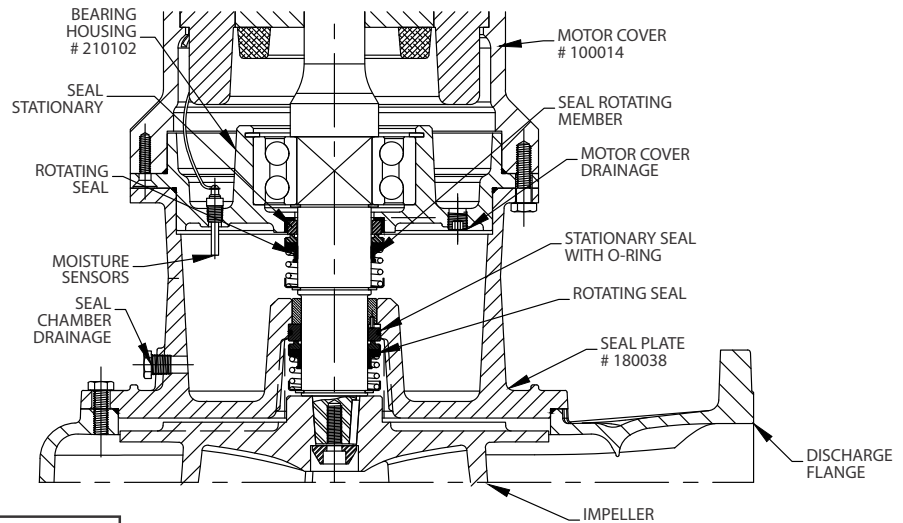

Figure 2
**Seal** - (See Figure 2) Clean and oil seal cavities in bearing housing and seal plate. Lightly oil (**Do not use grease**) outer surface of inboard and outboard stationary members of seal. Press inboard stationary member firmly into bearing housing and outboard stationary into seal plate, using a seal pusher tool. Nothing but the seal pusher tool is to come in contact with seal face.